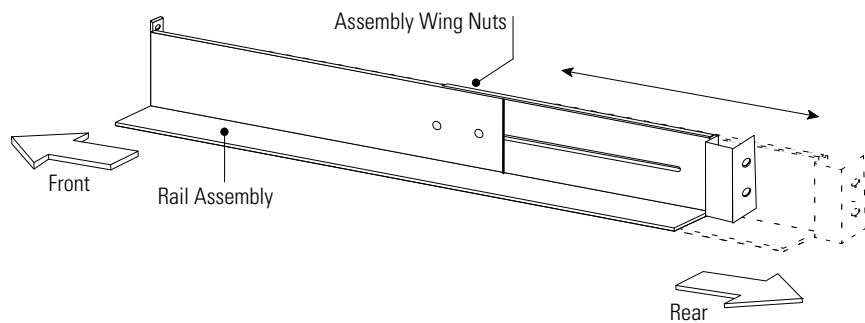

Figure 19. Adjusting the Rail Depth
1. Loosen the assembly wing nuts on both rail assemblies and adjust the rail size for the depth of your rack (see Figure 19).